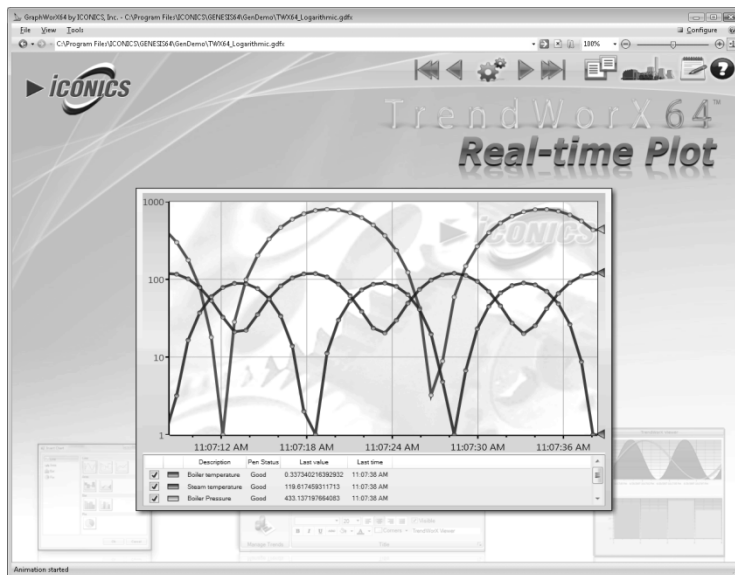

Figure L1.1 - GenDemo TrendWorX64 Viewer Example Display
2. Click on the Applications ribbon, then click the TrendWorX64 button in the Client section, shown in Figure L1.1. Doing this opens TrendWorX.